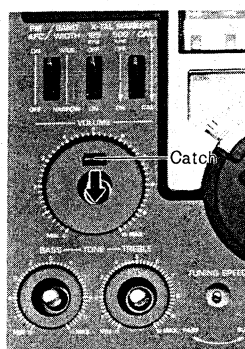

Fig. 2
8. Push the catch in the direction of arrow, as shown in fig. 2 and remove the front cover.